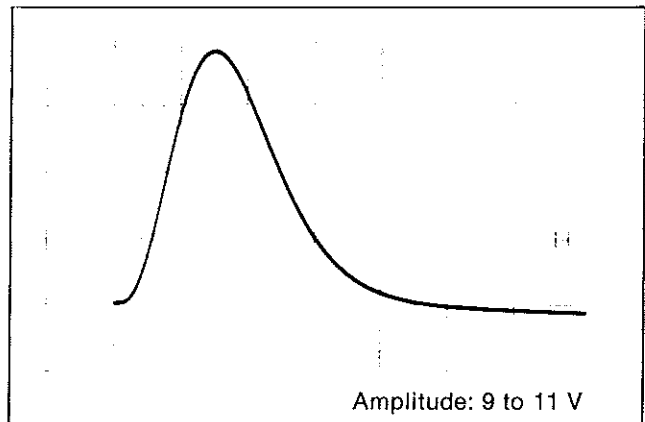

Figure 5-1
- Connect the UNIPOLAR OUTPUT to the scope with RG-62 coax cable, using a "Tee" connector at the scope. You should observe the near-Gaussian shaped pulse shown in Figure 5-1